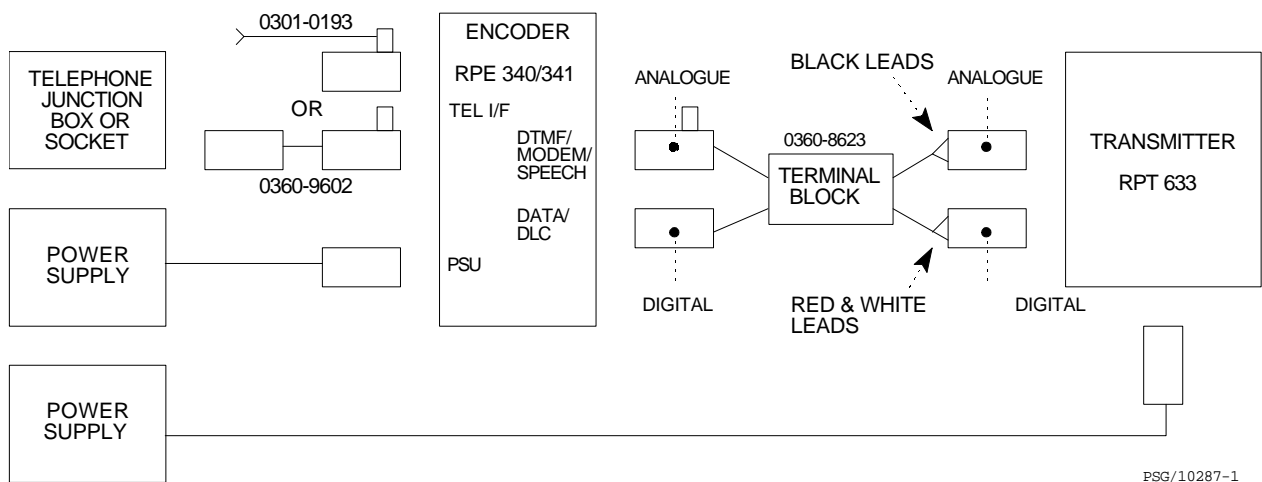

Figure 3: Typical Access 340 System Configuration
- When connecting the transmitter to an RPE 340 series encoder, SK1 and SK2 should be connected as shown in Figure 3.